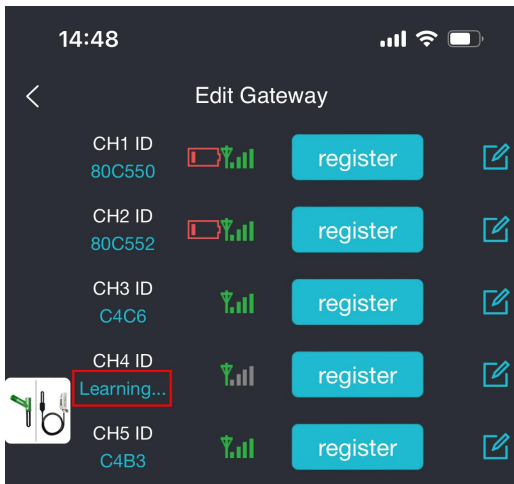

Figure 9
5. Then the new sensor will be learned and the old sensor will be erased, like the Figure 9.